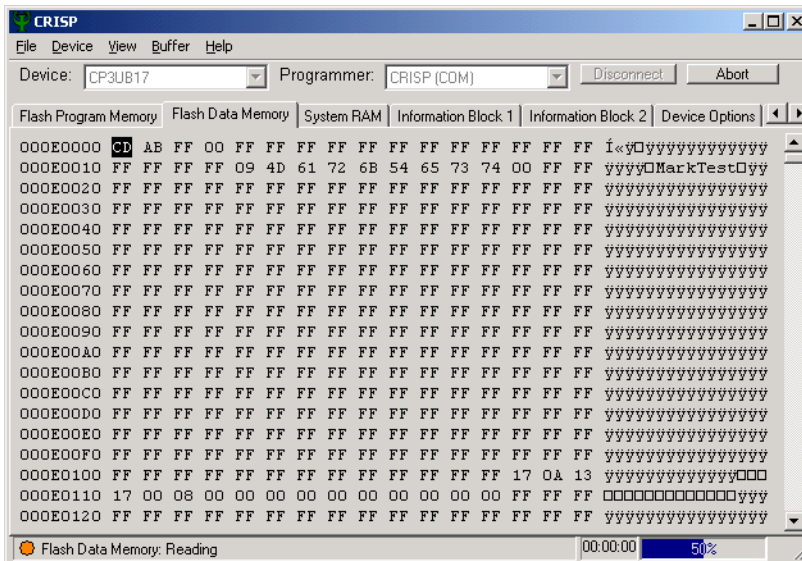

Figure 6-14. Status Bar During a Memory Upload from the Target Device
2. **Monitor the Upload.** After selecting the Read Flash Data Memory command, CRISP will initiate the reading process, uploading from the target device into the Flash Data Memory buffer of CRISP. During this operation, the status bar will look as shown in Figure 6-14.